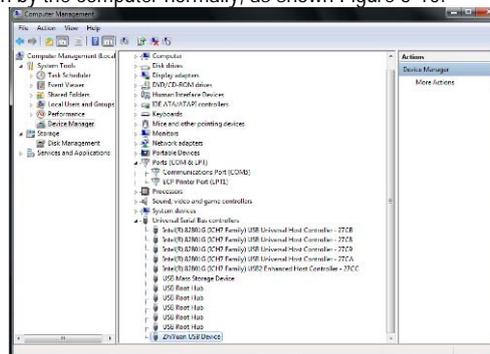

Figure 5-10
4. Click "Next" to install the drivers, after installation, device can be known by the computer normally, as shown Figure 5-10: